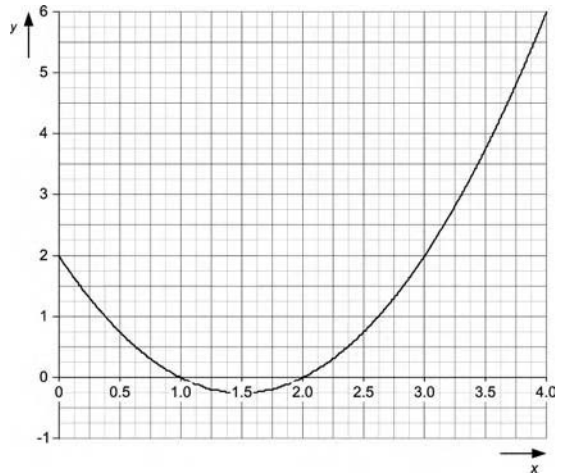

Figure 2.50 Graph of equation $y = x^2 - 3x + 2$.
73. The graph of the quadratic equation $y = x^2 - 3x + 2$ is shown in Figure 2.50, from this graph an estimate for the roots of the equation $y = x^2 - 3x + 1$ is: [A, B1, B2]